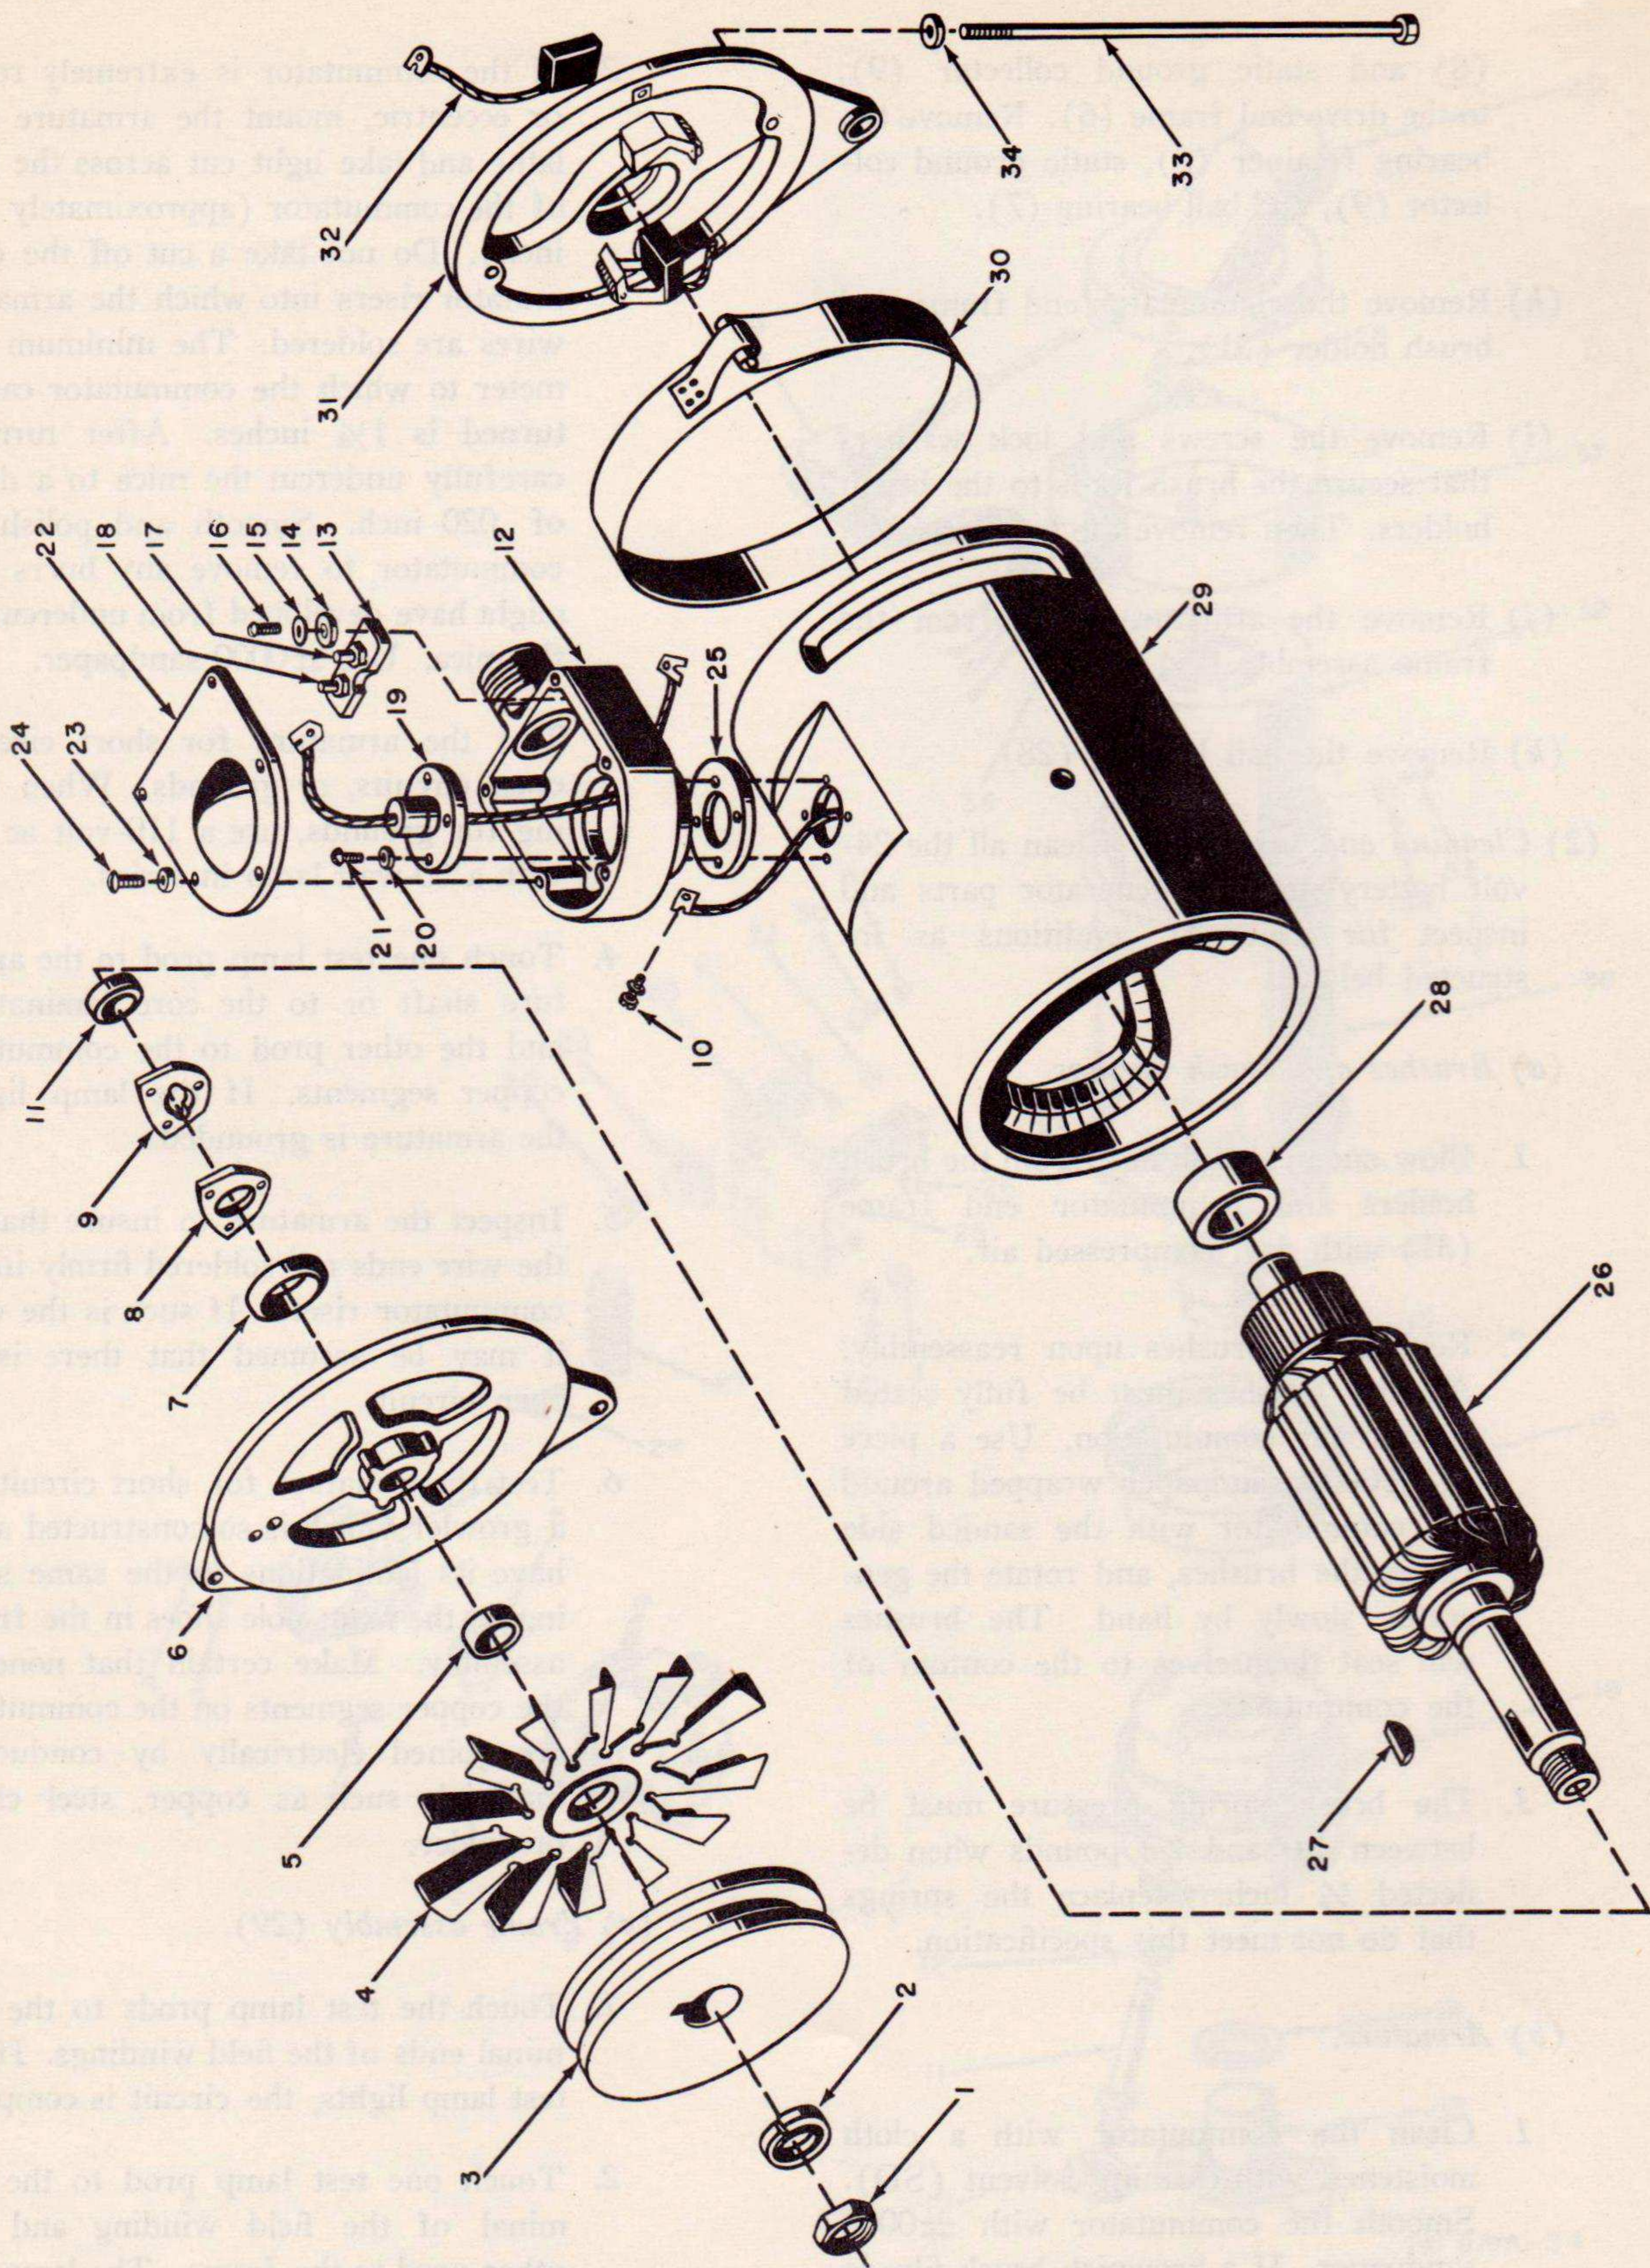

Figure 28. 24-volt battery-charging generator, exploded view.
- (b) Install the brushes (11) in the brush holders and secure the leads.
- (c) Install the brush holders (12) and brush holder insulators (10) in the bearing bracket (23).
- (d) Attach the bearing bracket (23) to the field frame (16) with the four Allen-head screws (22).
- (e) Press the bearings (2) and (4) into position in the bearing brackets (5 and 23).
- (f) Slip the armature (1) into the field frame. Do not damage the brushes and examine for correct seating on the commutator.
- (g) Install the bearing bracket (5) on the field frame. Align either mounting ear of the bearing bracket (5) with the ear on the bearing bracket (23) and secure the bearing bracket to the field frame with the four Allen-head screws (6).
- (h) Position the suppression shield gasket (18) and capacitor suppression shield assembly (19) on the field frame. Be sure of clean metal-to-metal contact between the field frame, gasket, and capacitor suppression shield assembly. Connect the electrical leads. Slip the cover in position and secure with the six screws.
- (i) Slip the band assembly (24) onto the bearing bracket (23) and tighten the bolts.
- (k) Position the key (3) in the shaft keyway and tap the assembled external fan (7) and pulley (8) onto the shaft. Lock the pulley into position with the lock nut (9).
- i. 24-volt Battery-charging Generator (fig. 28).* After the 24-volt battery-charging generator has been removed (par. 55m), proceed as follows:
- (1) *Disassembly.*
- (a) Remove the screws (24) and lock washers (23) that secure the shield cover (22). Remove the shield cover.
- (b) Disconnect the electrical leads on the terminal plate assembly (13). Remove the screws (16), washers (14), and lock washers (15) that secure the terminal plate assembly (13). Then remove the terminal plate assembly.
- (c) Remove the screws (21) and lock washers (20) that secure the capacitor (19) and terminal shield (12) to the generator frame assembly (29). Remove the capacitor (19), terminal shield (12), and terminal shield mounting plate (25).
- (d) Remove the pulley (3) and fan (4) by removing the hexagonal nut (1) and lock washer (2). Tap the shaft lightly with a hammer to break the pulley loose. Collect the outside space collar (5) and the key (27).
- (e) Remove the cover band (30).
- (f) Remove the through bolts (33) and lock washers (34). Remove the drive end frame (6), static ground collector (9), and inside space washer (11).
- (g) Remove the screws and lock washers (10) that secure the bearing retainer
(8) and static ground collector (9), to the drive end frame (6). Remove the bearing retainer (8), static ground collector (9), and ball bearing (7).
### LEGEND FOR FIGURE 28